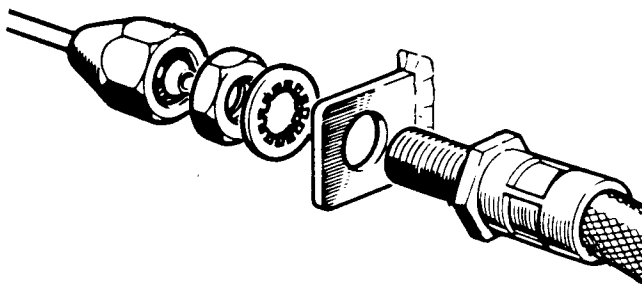

Fig J2.17
- (6) Refer to Fig J2.17. Reconnect the front brake pipes at the connections to the flexible pipes, one on each side of the vehicle, fitting the flexible pipes through the chassis brackets.
- (7) Replace the front road wheels.
- (8) Remove the stands and lower the vehicle to the ground.
- (9) Remove the wedge holding the brake pedal.
- (10) Bleed the brake system (see Sub-sub-section K1.6).
- (11) Replenish the front axle lubricating oil.